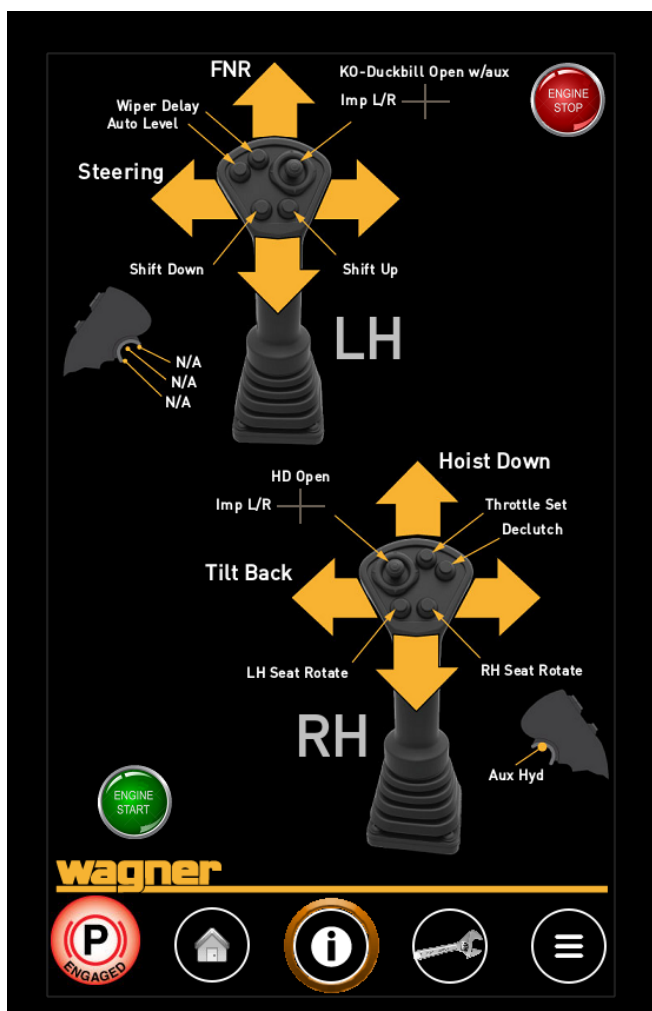

Figure 2-2-4 Information Screen
Press this button to display the information screen. See Figure 2-2-4.
Press the Information button icon (item 32) to access the Information Screen. The Information screen contains reference information for the operator. The functions of the joysticks are listed for reference. See Figure 2-2-4.